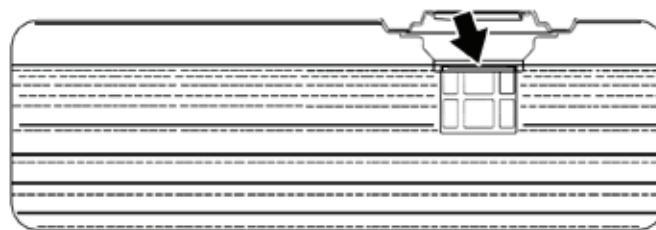

Figure 5 - Maximum Gasoline Fill Level
6. Slowly add gasoline into the fuel tank. Be very careful not to overfill the tank. The gasoline level should NOT be higher than the filler neck (see Figure 5).